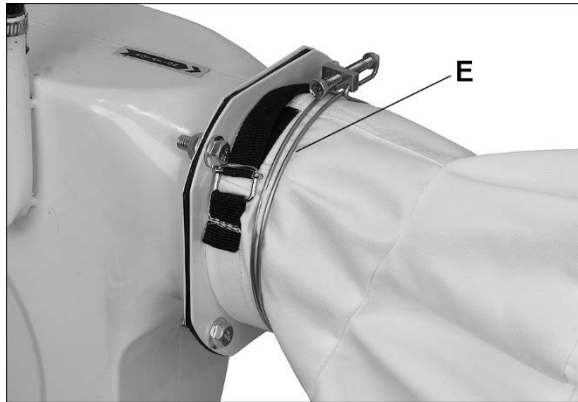

Figure 5-6
9. Place 5-inch diameter wire clamp (E, Figure 5-6) onto end of collection bag, and slide bag onto exhaust port. Tighten cloth strap and wire clamp.